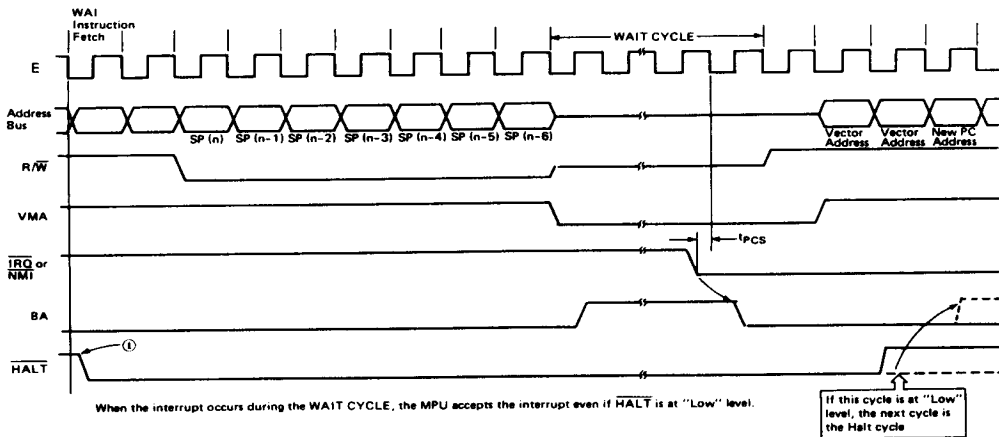

Figure 19 HD6802 WAIT CYCLE & $\overline{\text{HALT}}$ Request
The "Halt" signal is not accepted after the fetch cycle of the WAI instruction (See ① in Fig. 19). In the case of the "WAI" instruction, the MPU enters the "WAIT" cycle after stacking the internal registers and